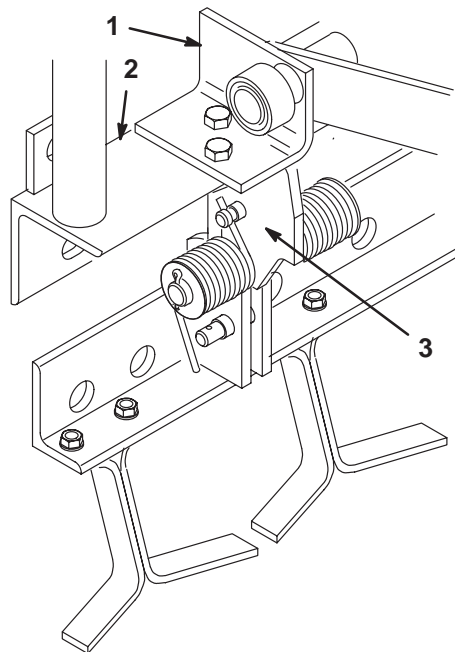

Figure 3
2. Secure the lift arm brackets to the top of the lift arm angle and the angle and sweep assembly to the underside of the lift arm angle with 4 new cap screws, washers, and locknuts as shown in Figure 3.